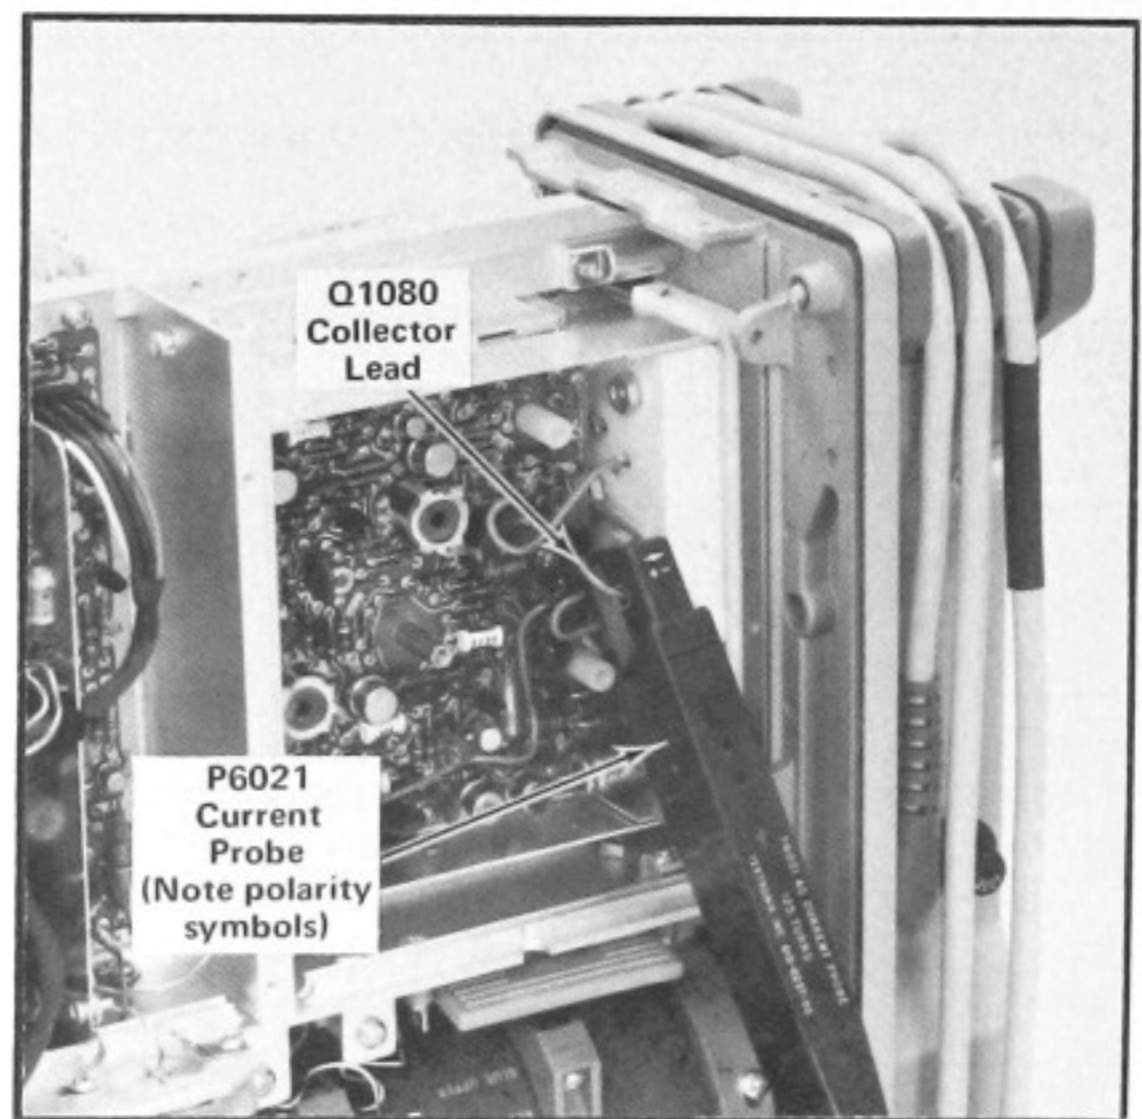

Fig. 5-1. Measuring Q1080 collector current.
a. Turn off instrument power, disconnect the power line, and remove the power supply compartment shields to provide access to leads connected to transistor Q1080. See Fig. 5-1.